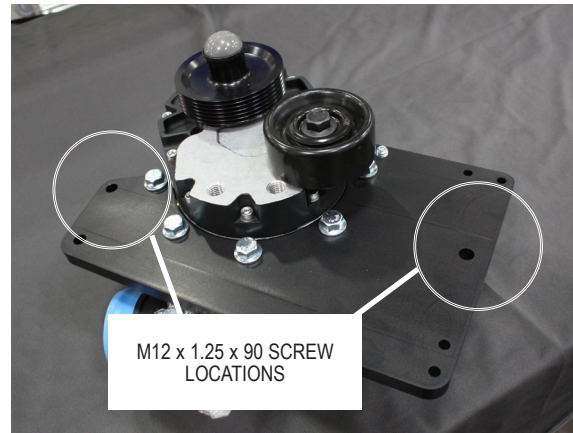

Fig. 3G
- G. The supercharger assembly comes mounted to the supercharger mounting plate with a smooth steel idler installed along with a drain hose connected. There is a captured screw in one of the mounting plate holes as well. See Figs. 3G, 3H.
- I. Temporarily hold the supercharger/plate assembly in front of the engine and familiarize yourself with the relative placement of the components. Leaving the idler pulleys in place, attach the main bracket spacers and M10 x 90mm screws to the mounting bracket as previously shown in Fig. 3G. Place the assembly onto the engine, loosely route the belt around the supercharger and idler pulleys (minus the alternator) and thread the M10 x 90mm screws into their pulley supports and lightly snug the screws. Thread the 3/8 x 1.25" screw into the support located beneath the A/C clutch. Loosely attach the mounting bracket support onto the alternator tilt bracket with the two 5/16 x 1.25" fasteners (lightly snug; do not tighten). Thread the 3/8 x 1.25" screw (captured in the mounting plate) into the end of the support and tighten. See Figs. 3L, 3M, 3N.